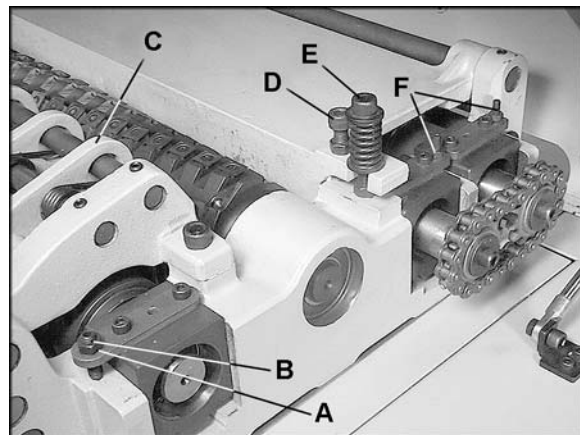
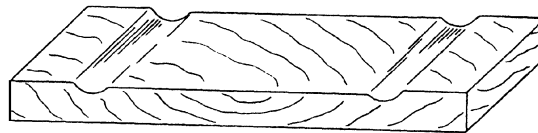

Figure 11
Figure 16
5. If it is not $1/16$ ", correct by loosening the hex nut (A, Figure 11) and turning the adjustment screw (B, Figure 11) with a hex wrench.
6. Move the gauge to the extreme opposite end of the infeed roller and check. Make necessary adjustments. Tighten hex nuts (A, Figure 11) when finished.
The chipbreaker (C, Figure 11) is a sectionalized type made of spring-loaded sections mounted on a bar, which complements the sectional infeed roller. The functions of the chipbreaker are to break chips into small pieces, help avoid splintering of the wood, help avoid board bounce on thinner boards, to direct the flow of chips out of the machine, and to permit multiple board surfacing.
Use a gauge to set the full length of the pressure bar to be .000-.001” (.02mm) below the arc of the cutterhead. Figure 11 shows the height adjustment screw (D) and the spring tension adjustment screw (E) for the pressure bar. This initial setup is a starting point and final adjustment may have to be made during a test cut.
Adjust as necessary using the screws (F, Figure 11). When finished adjusting, tighten the hex nuts on the screws (F, Figure 11).
If clip marks occur 6" (152mm) in from each end of the board, the pressure bar is too high. See Figure 16. Turn both right and left hand adjusting screws (see Figure 11) the same amount, 1/4 turn clockwise or less, and take another 1/16" (1.59mm) deep cut. Re-examine the board.